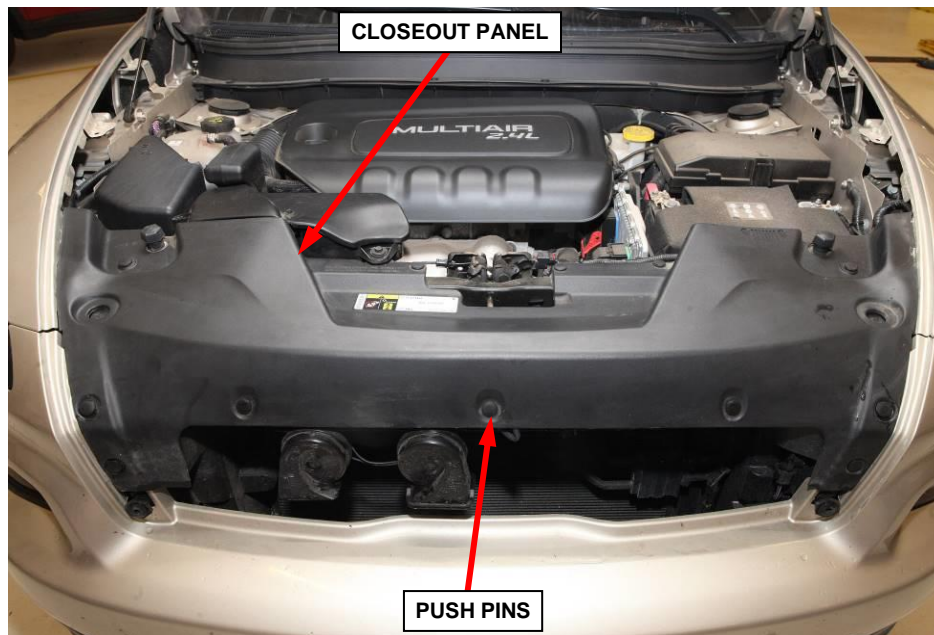

Figure 5 – Closeout Panel
11. Remove push pin fasteners then remove closeout panel (Figure 5).
39. **(KL) Jeep Cherokee Only:** Install the closeout panel and push pin fasteners (Figure 5).